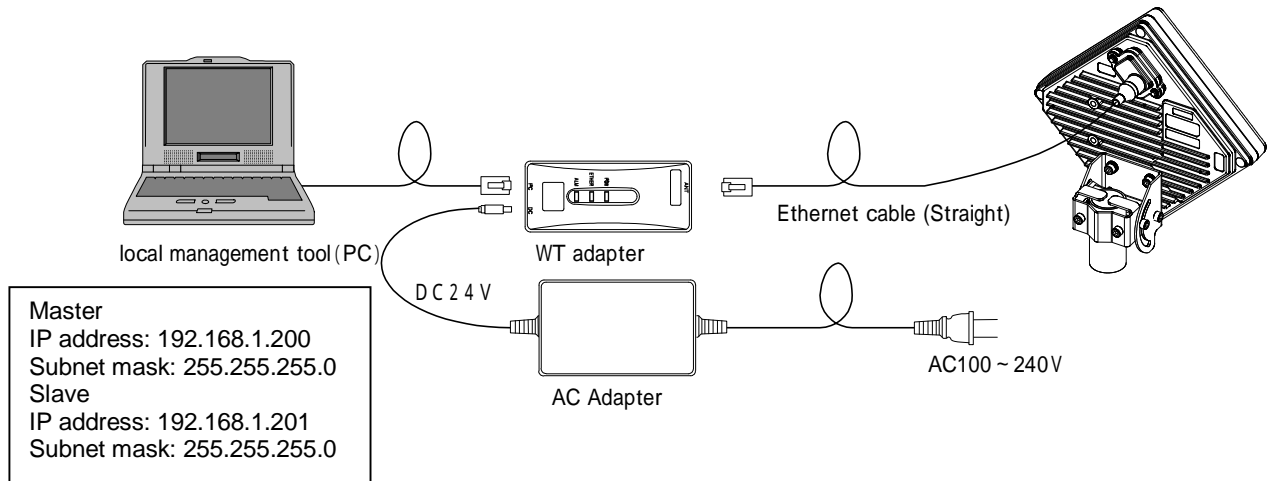

Figure 7-30 Connecting the WT Local Management Tool
(1) As shown in Figure 7-30, connect the WT Local Management Tool (PC) to the WT adapter.